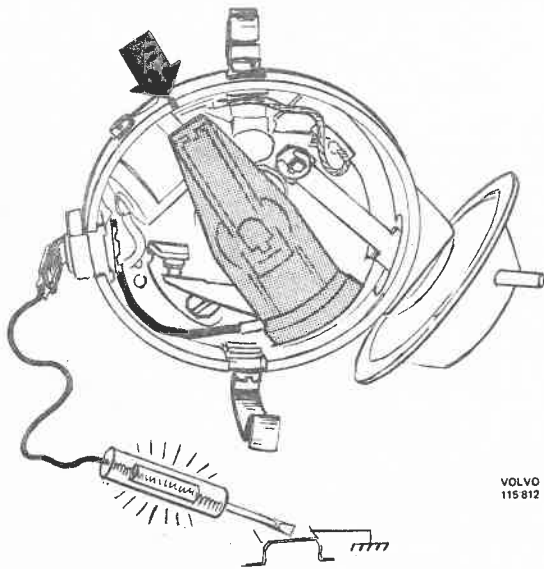

Fig. 34-20. Basic setting.
- Slowly turn over the crankshaft (by hand) in the engine's direction of rotation until the 10° marking on the flywheel damper is opposite the firing mark. The distributor lever should then point to the scribed mark on the edge of the distributor housing. The test lamp should light, Fig. 34-20.